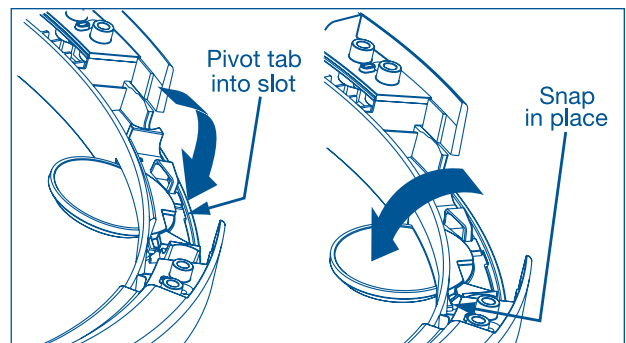

Figure 2-40.
3. Gently push the indicator toward the center of the glass and pivot the tab downward into the retaining slot. (See Figure 2-40)